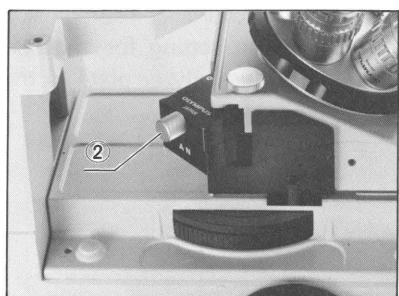

Fig. 14
- 2) Choose a most suitable contrast color in a range from 0 order (black) to second order (blue) (or 0 to 700 nm) by rotating the prism adjustment knob ②. (Fig. 14)